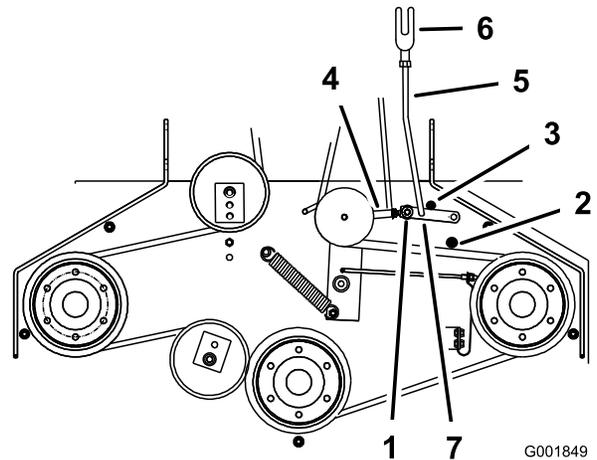

Figure 48
5. Make sure that the assist arm is against the rear-assist-arm stop on the deck (Figure 48).
7. The assist arm should contact the front-assist-arm stop on the deck. If it does not contact, adjust the bellcrank so that it is closer to the gusset (Figure 48).
8. To adjust the assist arm link, remove the hairpin cotter pin from the assist arm (Figure 48).
11. Install the assist arm link into the assist arm and secure it with the hairpin cotter pin (Figure 48).